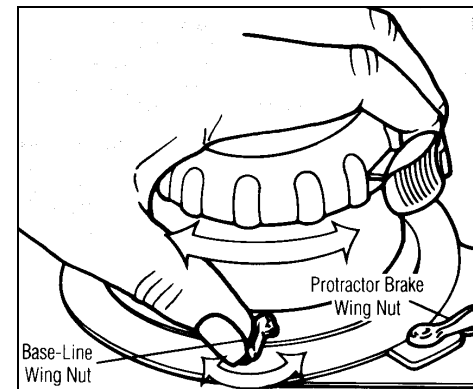

Figure 9
C. Base-Line Setting (Figure 9)